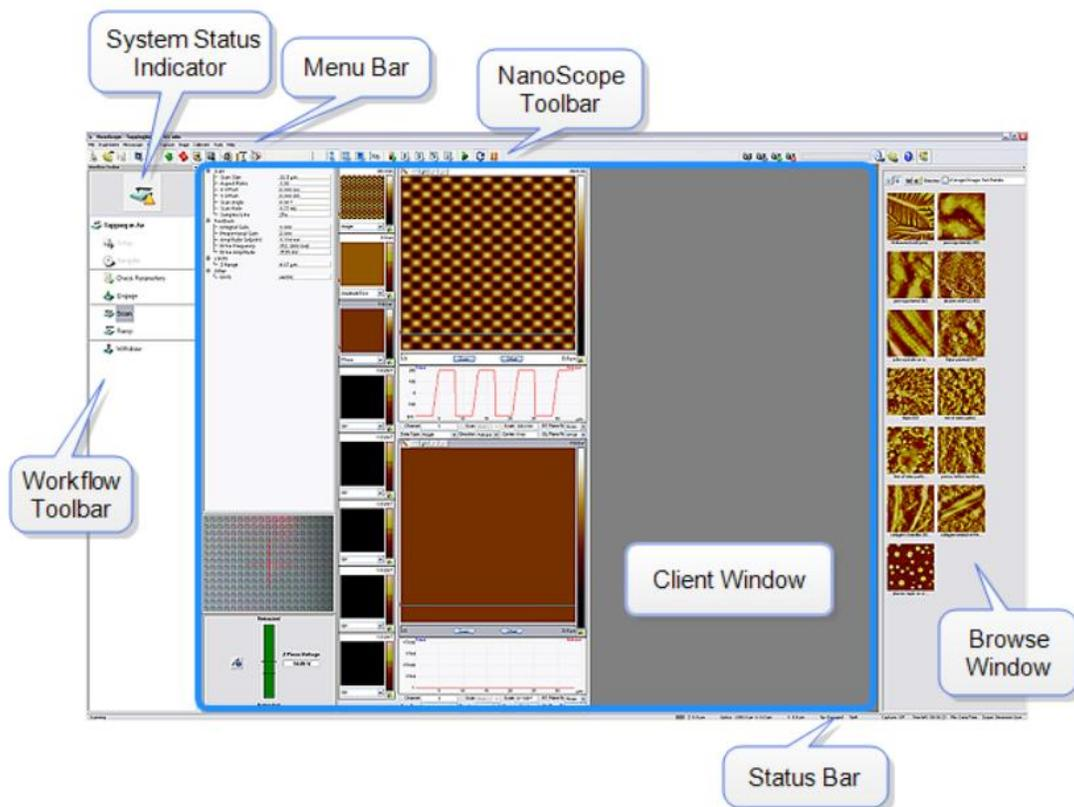

Figure 13. The Main Screen Elements of the Nanoscope 10.0 Software
29. Either leave the parameters default and continue with your experiment, or adjust them according to the mode and application, using the Workflow Toolbar shown in Figure 13. When a parameter is changed from the workspace value, it will be highlighted in yellow. For details about initial parameter settings, refer to the specific Imaging Modes information on the Bruker Dimension Icon AFM website or consult NFF staff.